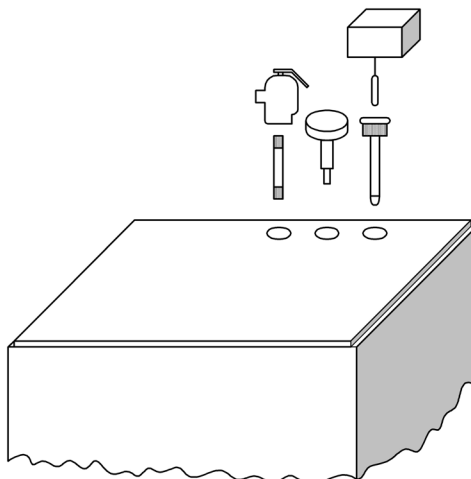

Figure 13
- a) Take the L-7248C Aquastat relay, the well, the pressure relief valve with pipe nipple and the temperature/pressure gauge from the large carton. Install in taps provided at the top rear of the boiler as shown in Figure 13.
- a) The pressure relief valve and temperature/pressure gauge are supplied with the boiler and should be mounted as shown in Figure 13.